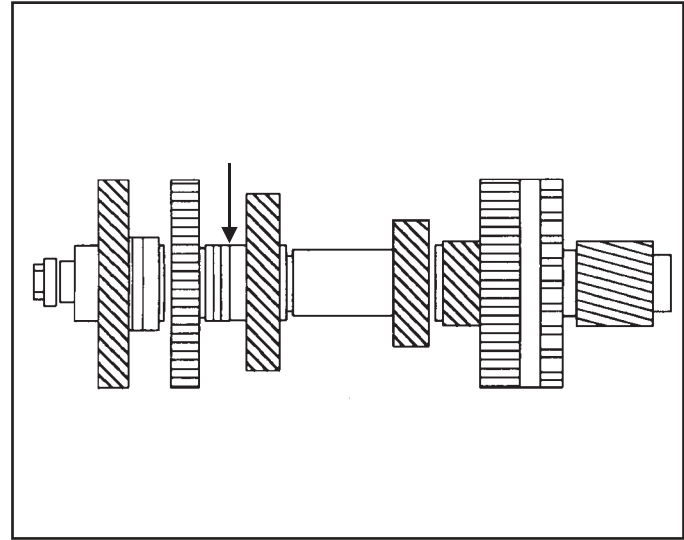

Figure 142
28. Measure the clearance between the 2nd driven gear and the dog clutch hub. Move the dog clutch sleeve as necessary to gain access for measurements (See Figure 142).